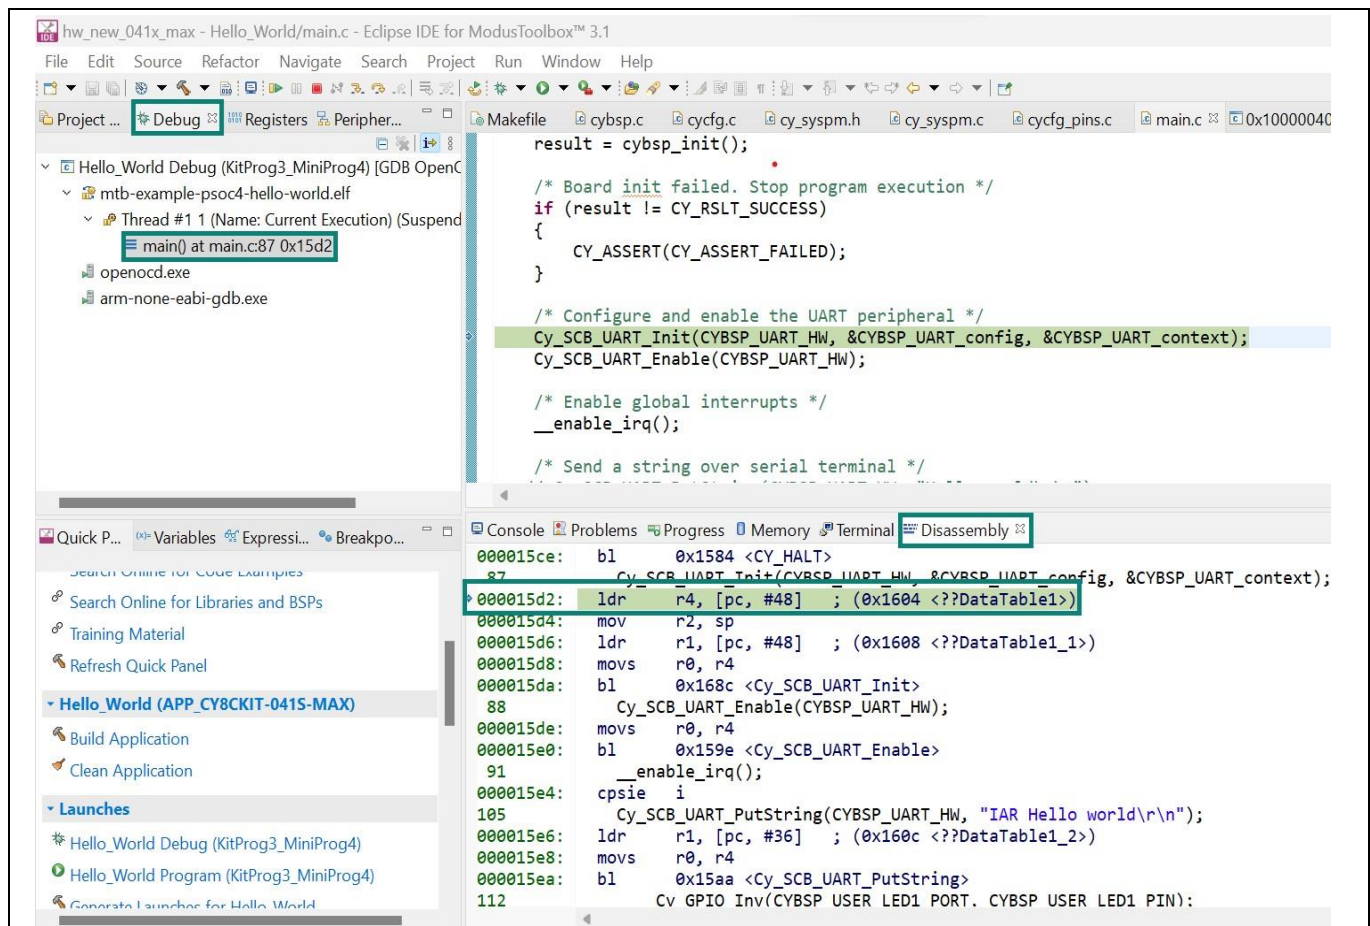

Figure 5 Eclipse IDE for ModusToolbox™ software disassembly window
1. You can observe the generated assembly in the debugger disassembly window as shown in Figure 5.